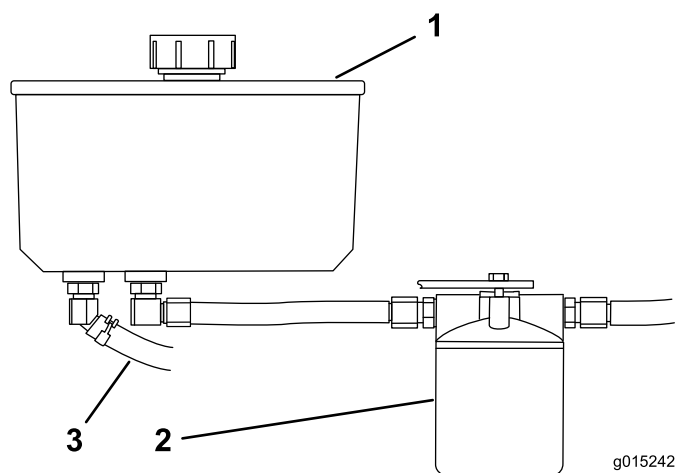

Figure 81
4. Locate the front hydraulic hose under the hydraulic tank and place drain pan under the tank (Figure 81).